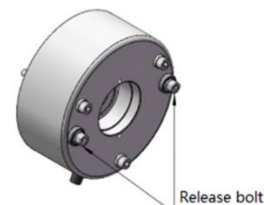

Fig. 9
1. To unlock the brakes: Use an Allen wrench to tighten the two release bolts at the rear end covers of the left and right wheel motors to unlock and release them. As shown in Figure 9